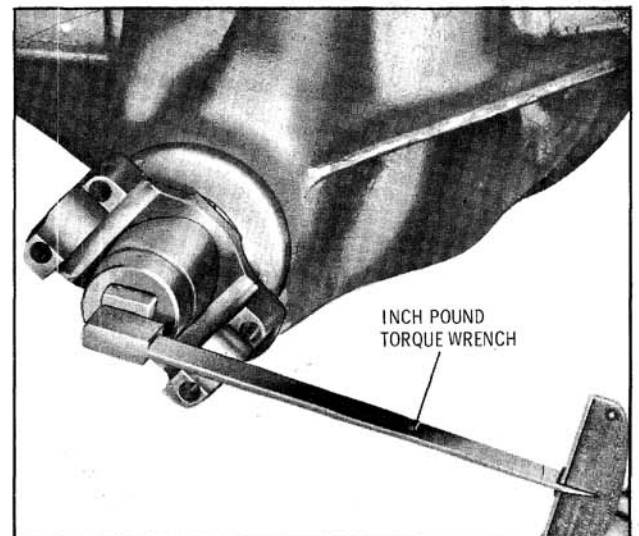

Fig. 10-37 Checking Pinion Pre-load
6. Check pre-load by using an inch pound torque wrench as shown in Fig. 10-37.